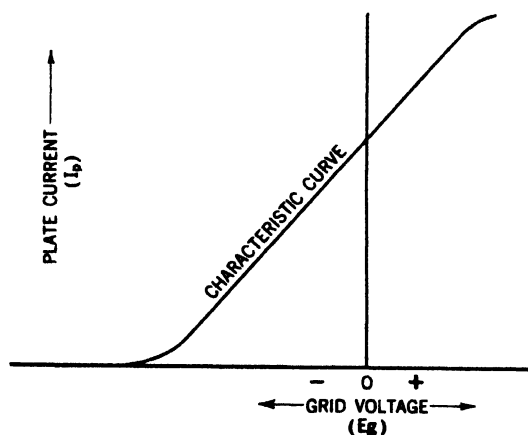

Fig. 37-5. The grid-voltage-plate-current characteristic curve for a triode.
set of values against the other, we may get the characteristic curve shown in Figure 37-5. From this curve, you will notice that a certain amount of current flows in the plate circuit even though the grid may be charged somewhat negatively. We previously learned the cause of this condition: The stream of electrons to the plate is not cut off completely until an appreciable negative charge is placed on the grid.
**Transfer Characteristic Curves.** In Figure 37-5, we have the characteristic curve formed when variations of grid voltage ( $E_g$ ) are plotted against corresponding variations of plate current ( $I_p$ ). This curve is called the  $E_g$ - $I_p$  or *transfer characteristic curve*. You will note that the potential difference between the plate and cathode ( $E_p$ ) remained constant. If we change the  $E_p$  and again plot the  $E_g$ - $I_p$  curve, we get a second curve resembling the first and lying nearly parallel to it. If, on the same graph, we plot the curves for a number of different plate voltages, we get a *family* of transfer characteristic curves. The family of such curves for a triode such